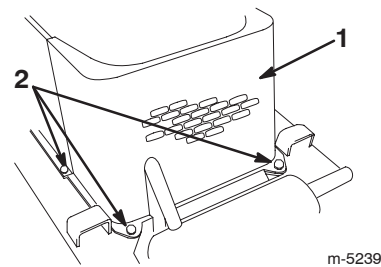

Figure 23
5. Remove the 4 bolts securing the front screen to the traction unit frame and remove the front screen (Fig. 23).